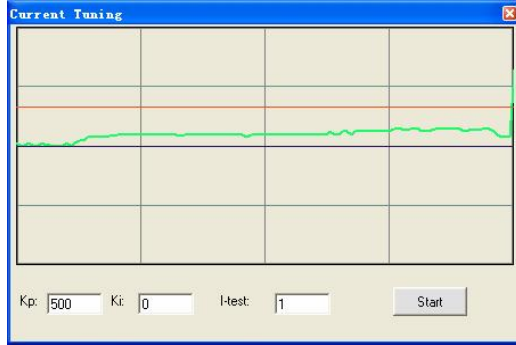

Figure 6-21: Current loop tuning with $K_p=500$, $K_i=0$
Step 2: Click the **Start** button and the plot window will show two curves. The red one is target current and the green one is actual current. There is large gap between them in the scope. It indicates that a large **Kp** need to be introduced. See figure 6-21.